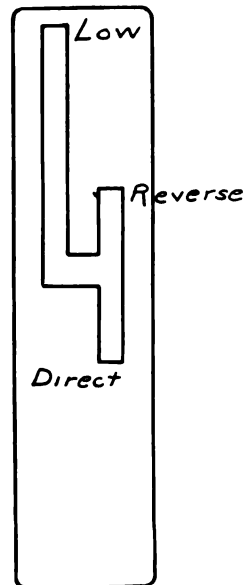

Fig. 41
- 240 — Fig. 41 shows the H slot for a two-speed low transmission. Pull shifting lever from neutral towards right and back for "low." Shove shifting lever from neutral towards left and back for "reverse"—and forward for "high." The same relation of shifting exists with a two-speed high transmission, except that "low" is direct and "direct" is "high."